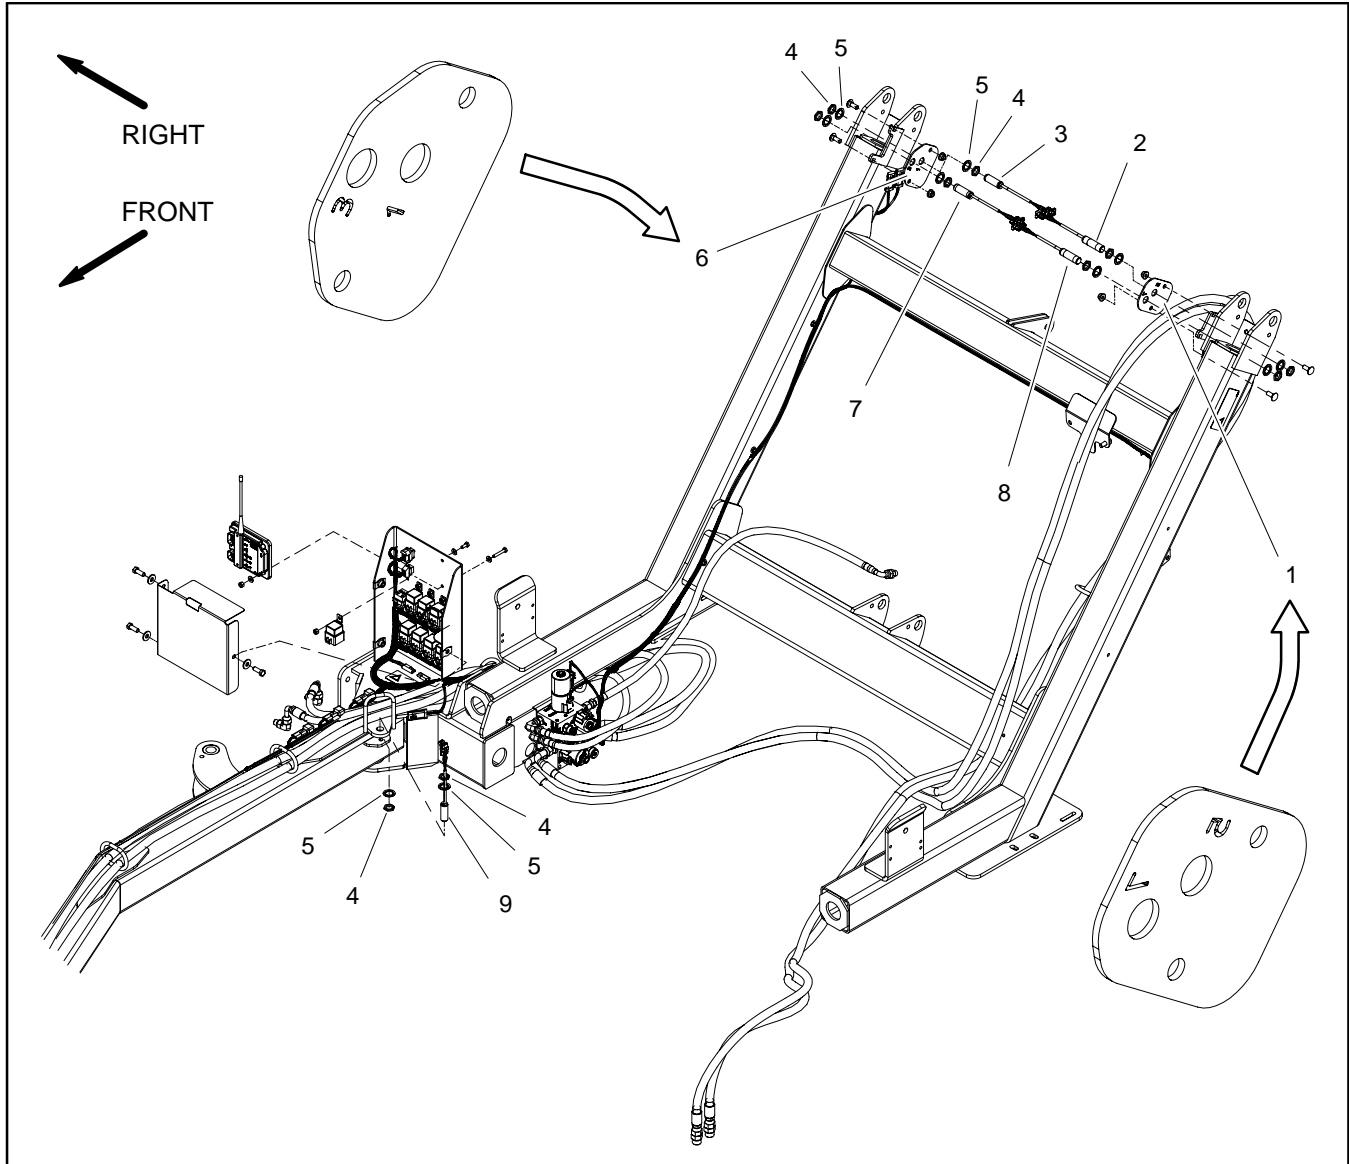

Figure 10
The Pro Sweep uses five (5) identical inductive proximity switches to control sweeper operation. These proximity switches are normally open and close when a sweeper frame component is positioned near the target end of the switch. The switches incorporate a LED on the cable end of the switch. The LED illuminates when the switch is in the closed position. The switches are mounted on the main sweeper frame in three (3) locations (Fig. 10).